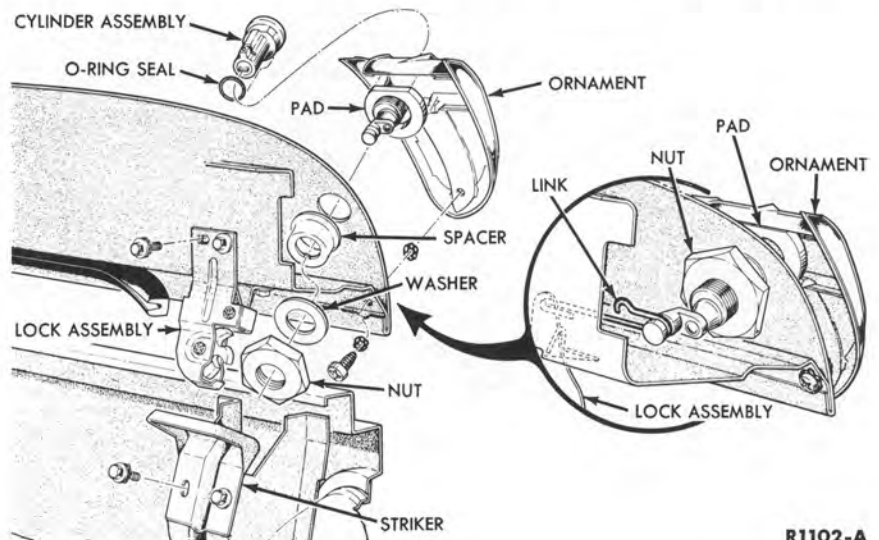

FIG. 40—Deck Lid Lock—1962
1. Disconnect the lock link, and remove the ornament assembly retaining screw, nut, washer and spacer (Fig. 40).